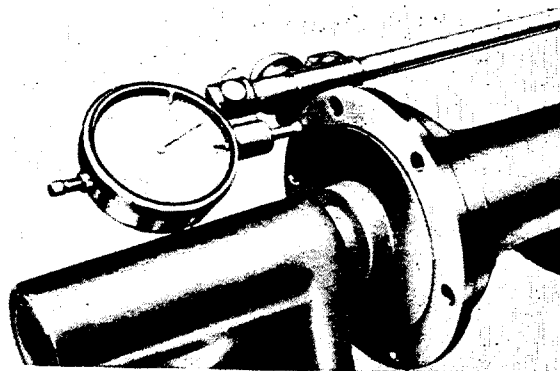

Fig. H 3a/32
32. Check flange for fastening the brake anchor plate for true run (Fig. H 3a/32).